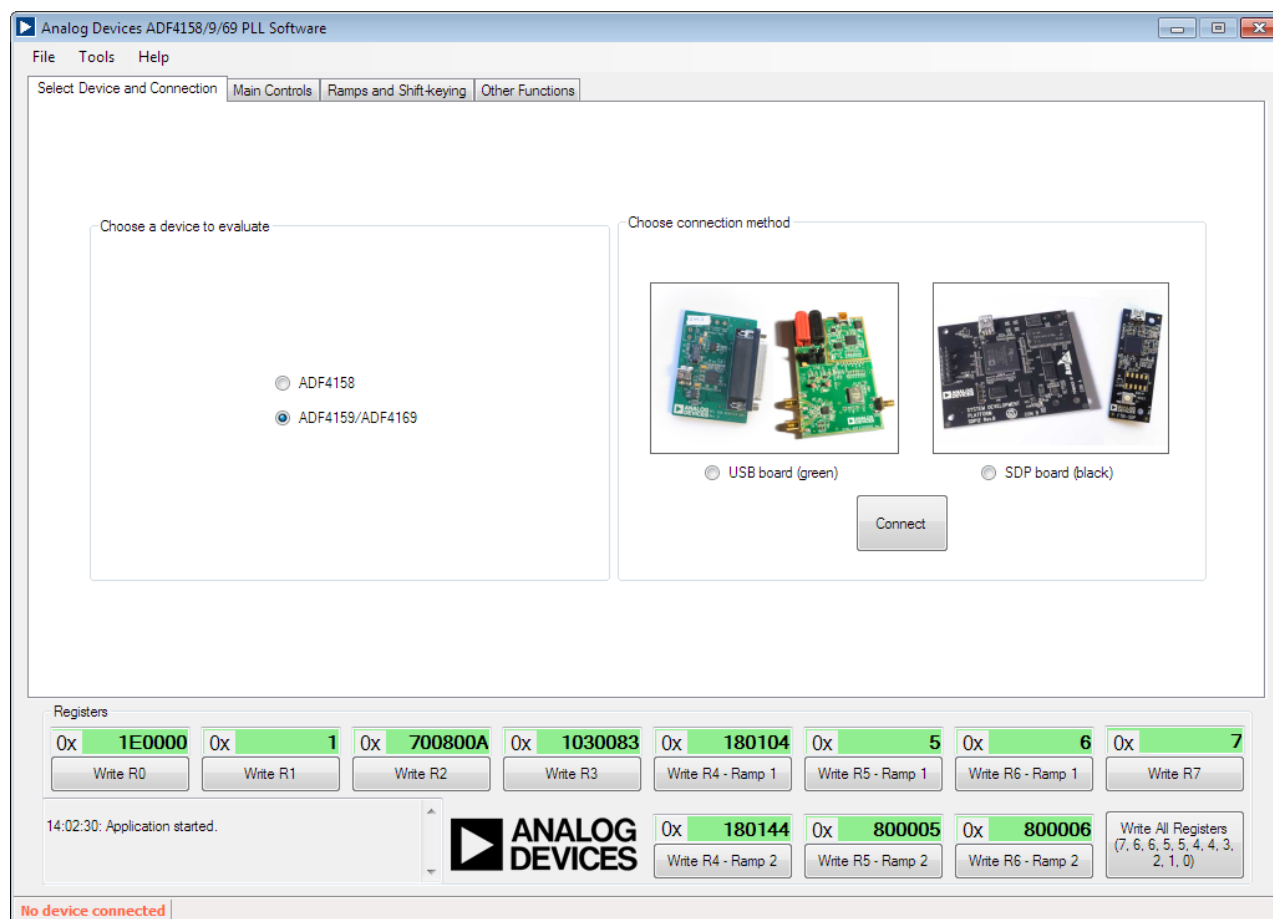

Figure 6. Software—Device Selection
3. Click **ADF4159/ADF4169** and **USB board (green)**, and then click **Connect** (see Figure 6).